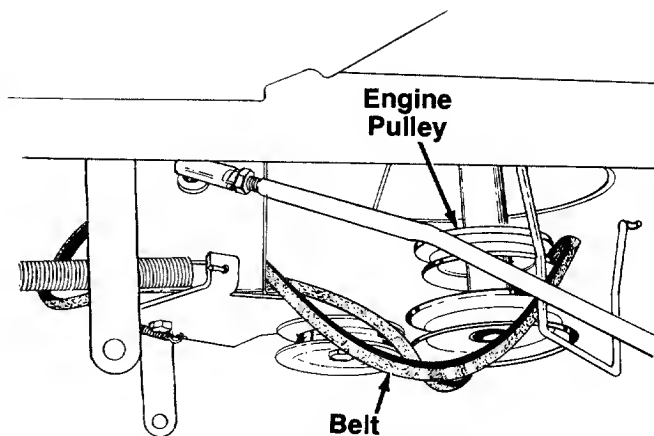

FIGURE 22.
6. Slip belt off the engine pulley. See figure 22.